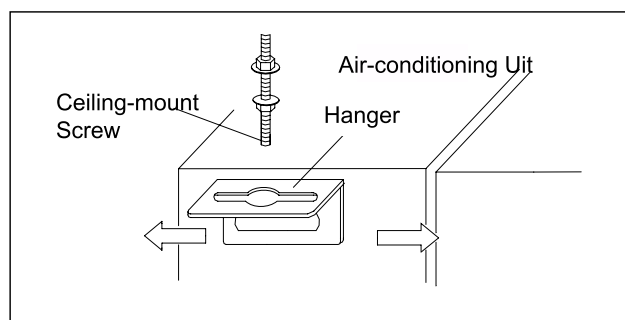
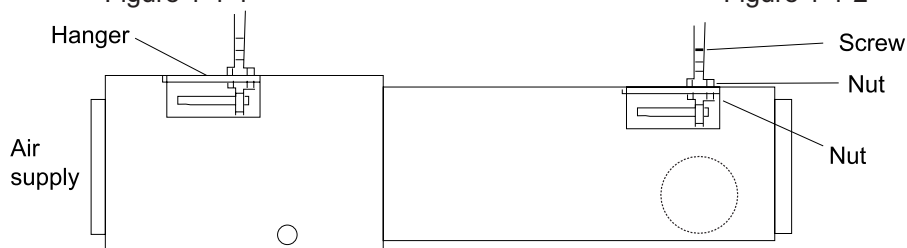

Figure 1-1-2
Figure 1-1-3
d. Install the hanger onto the indoor unit as Figure 1-1-2 and Figure 1-1-3 shows.